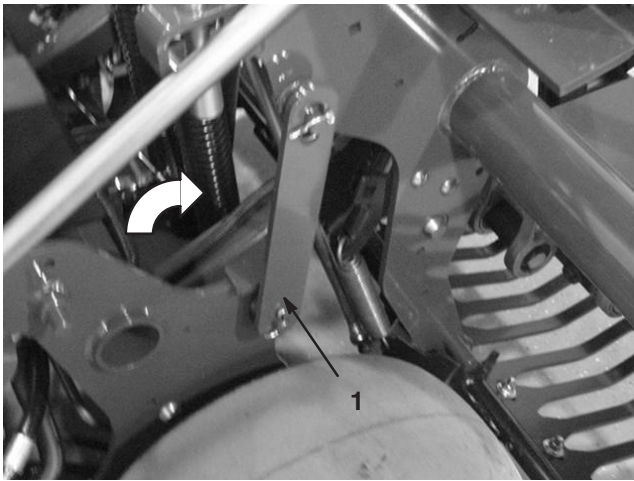

Figure 22
3. Pivot service latch rearward and insert onto coring head pin (Fig. 22). Secure with clip ring.